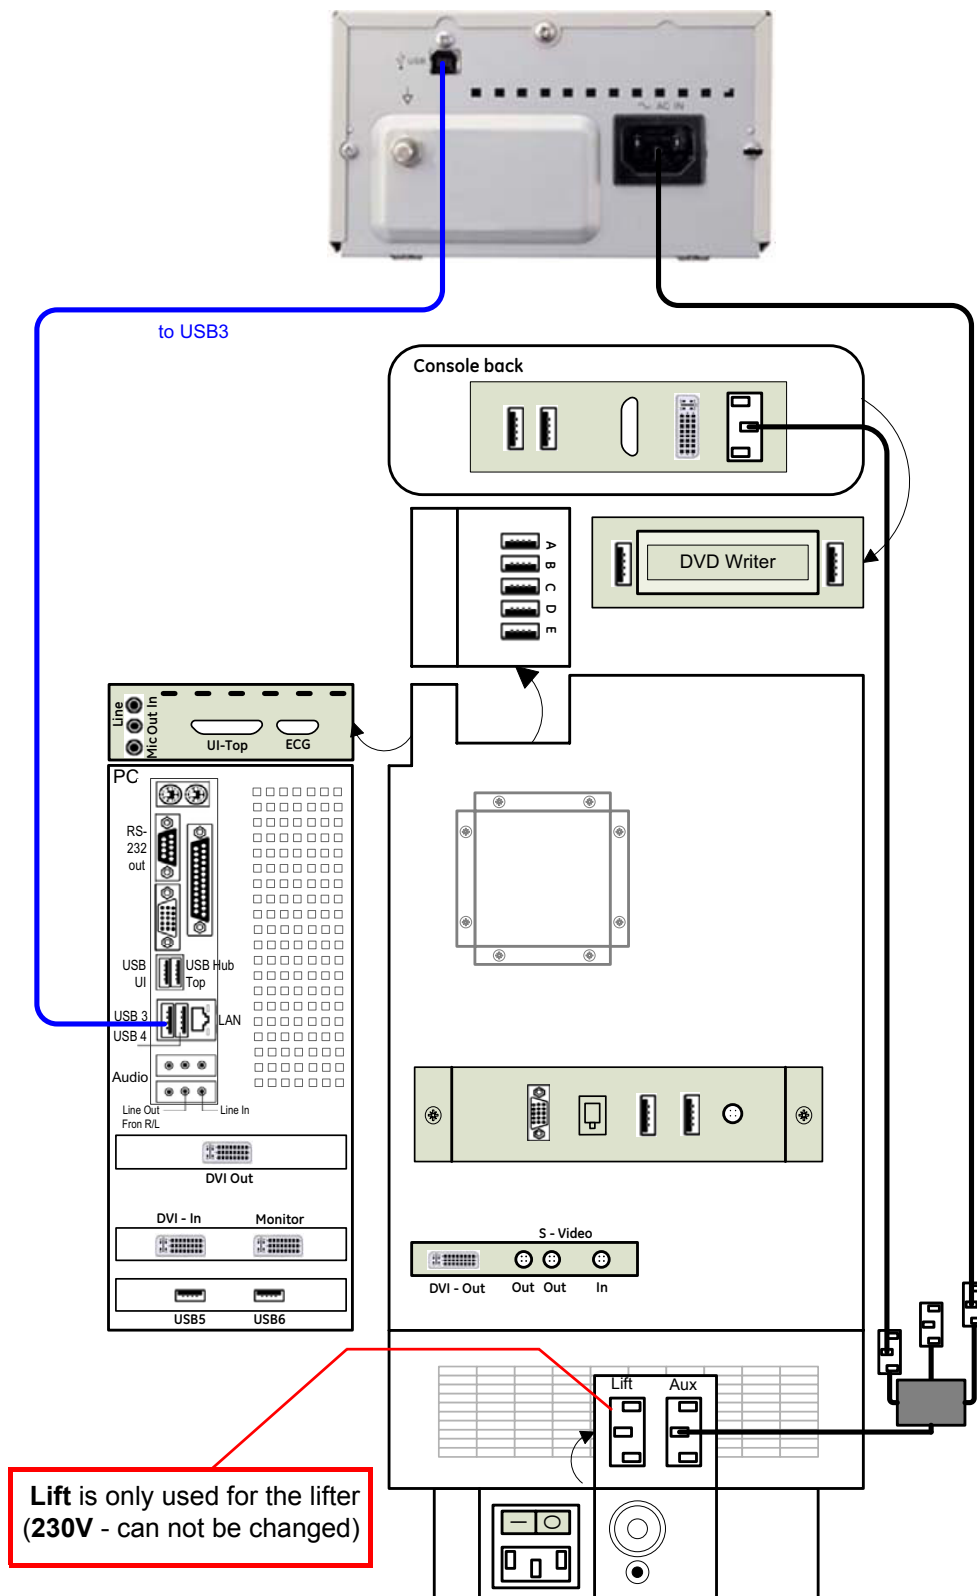

Figure 3-10 B&W Printer connection (BT08: DFI Dual-core PC-Motherboard installed)
- if “**DFI Dual-core**” PC-Motherboard is installed, see: Figure 3-10 on page 3-15